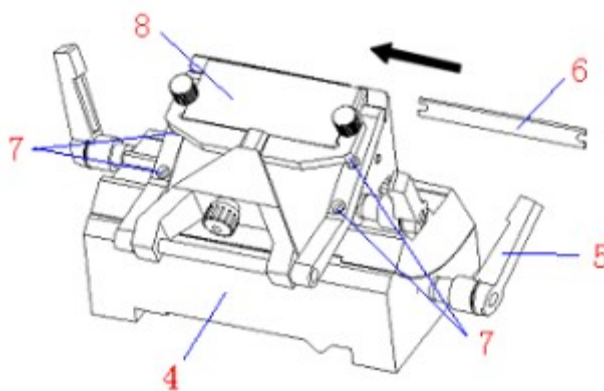

Fig. 25
As shown in Fig. 25, first rotate and loosen the lever (5). Then, insert the blade (6) into the knife holder (4) following the indicated direction, and rotate the lever (5) vertically to secure the blade.